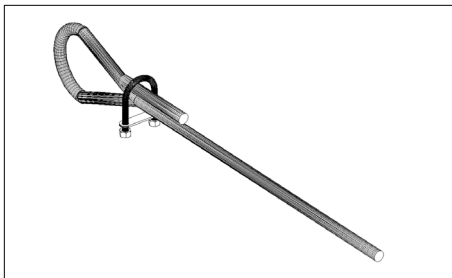

figure 5
3. Route 1 end of the lift cable through the chain link welded to the brush head assembly upright. Loop the loose end around and secure it with a cable clamp (figure 5).
INSTALL CABLE CLAMPS AS SHOWN IN FIGURE 5; otherwise, the cable could slip, possibly damaging the sweeper or injuring the operator.